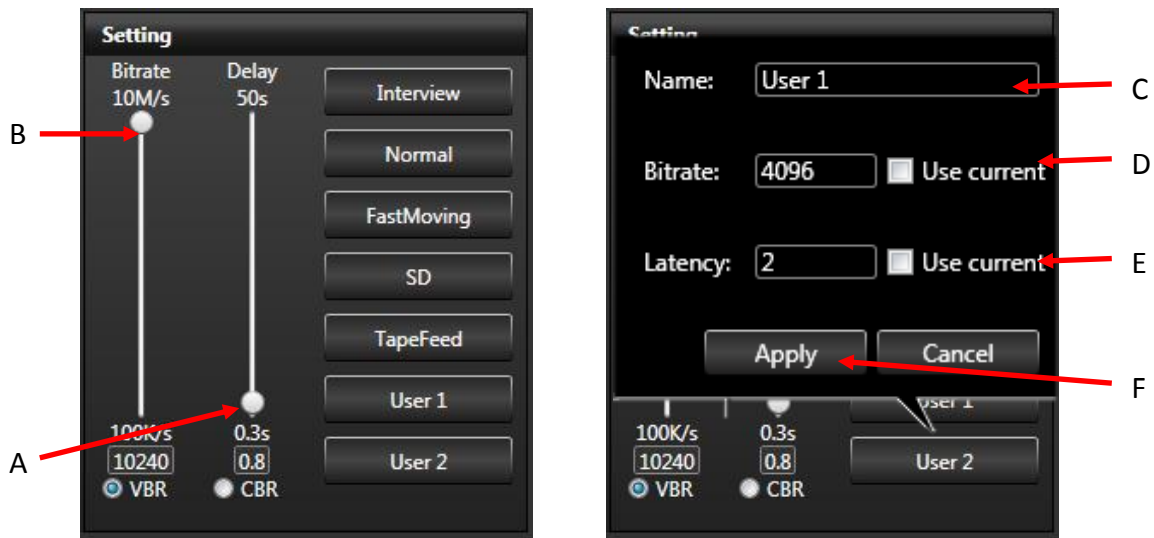

Figure 10
K	Operational mode selection buttons: Use the operational mode buttons to choose an appropriate capture quality. Each mode has a default bit rate and delay. See Figure 10
L	Bitrate and delay controls: Sliding bars allow you to manually set the target bit rate and delay levels. See Figure 10
Depending on your news gathering environment, you can choose from the following preset bitrates and latencies (Figure 10):
The TVU Receiver has a Smart VBR scaling system. This means that the unit will automatically adjust the bitrate in order to output the best quality picture based on the desired latency. In order to effectively take advantage of the smart VBR scaling system, set your desired latency (A) and then set the maximum bitrate you would like to utilize (B) (Figure 10). When in "Live" mode, the error rate and picture quality will automatically be adjusted based on the desired latency and the available bandwidth in order to produce the highest quality picture.